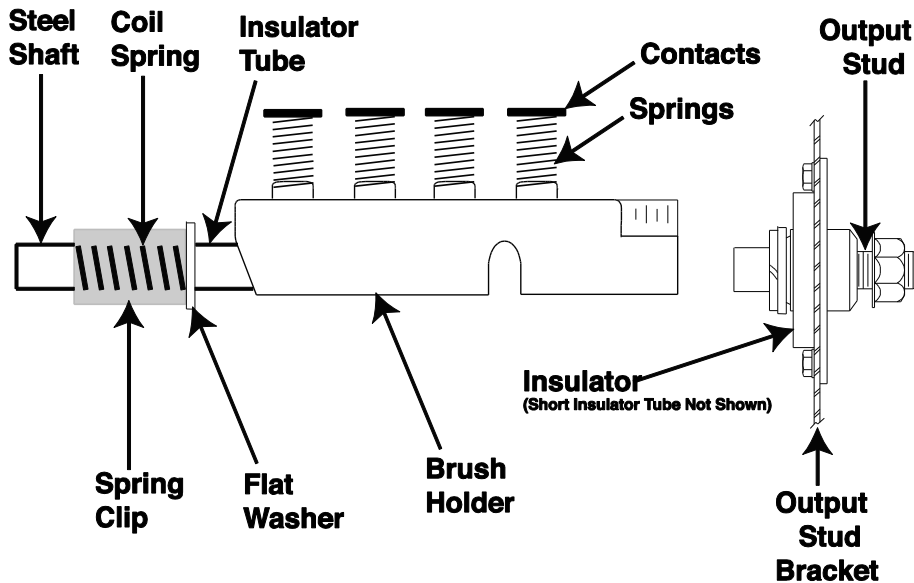

Figure F8
15. Examine the insulators on both assemblies. See **Figure F8**. Replace any that are worn, damaged or missing. If the shaft insulation tube requires replacement, position the shaft and tube per **Figure F8** and torque the two 5/16-18 Hex head screws to 8 Ft-Lbs.
16. Disassemble the output stud assembly and check the insulating washers and tube. Replace them if they are damaged or worn and re-assemble the output stud assembly. **See Figure F8.**
20. Assemble the flat washer, spring clip and coil spring to the shaft. **See figure F8.**